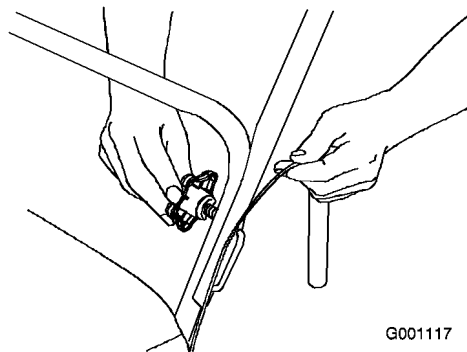

Figure 6
5. Fully insert the handle bolts (Figure 6).
Important: Ensure that you do not pinch the control cable (Figure 6).